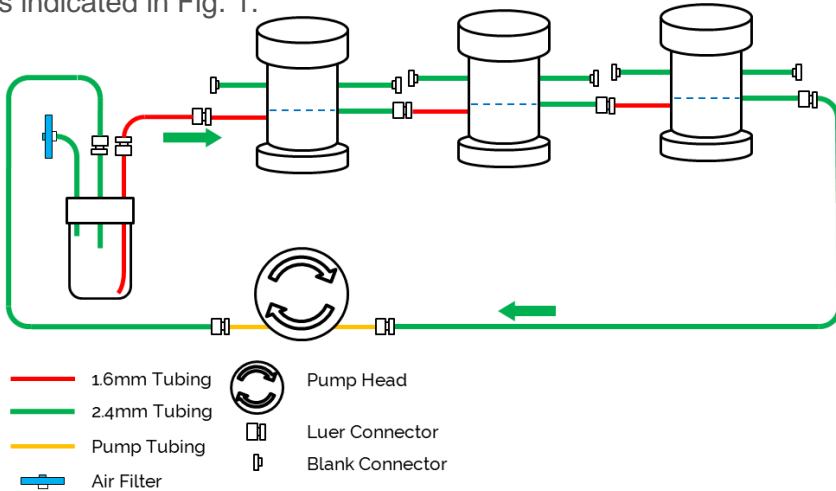

Figure 1. Example of the QV600 circuit with 3 chambers.
3. Construct your Quasi Vivo® circuit, working around the circuit from the pump tubing in the direction of flow using the correct sized tubing, as indicated in Fig. 1.